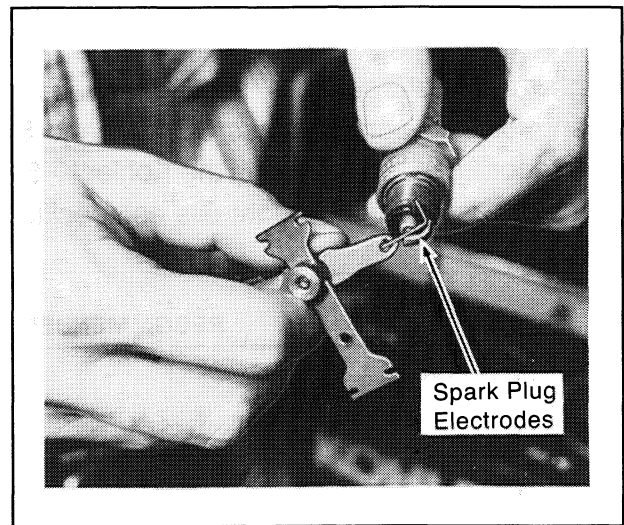

Figure 3-4. Measuring plug Gap
3. Measure the plug gap with a feeler gauge. See Figure 3-4. Adjust plug gap to 0.025 in. (0.64 mm) on gasoline-fueled sets; 0.018 in (0.46 mm) on sets fueled by LP gas. See Figure 3-5.